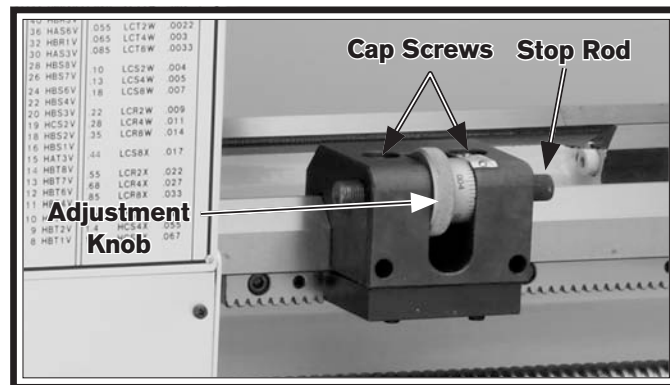

Figure 76. Carriage stop.
2. Loosen the cap screws shown in **Figure 76**.